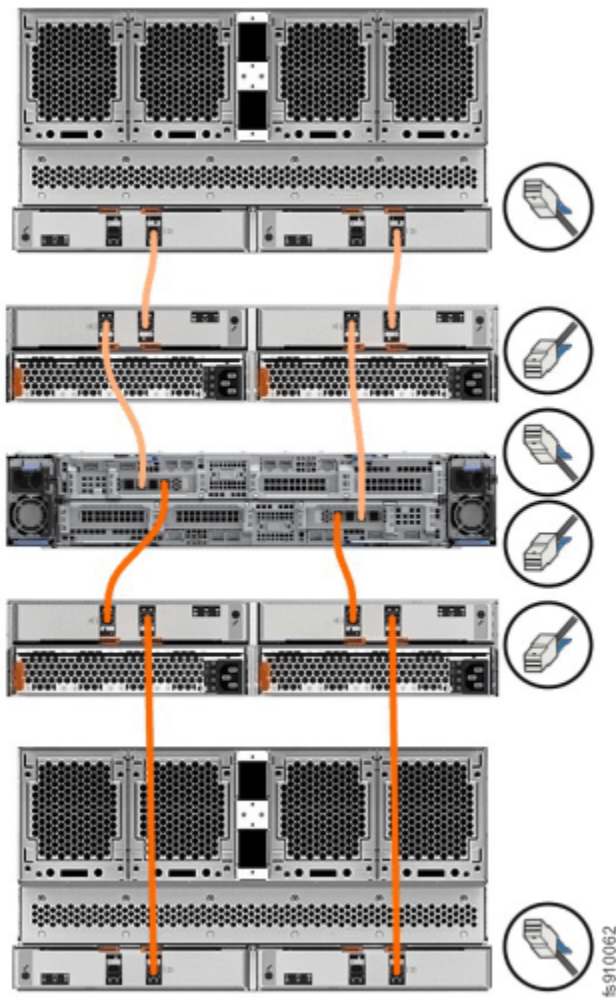

Figure 61. Connecting the SAS cables to control enclosure
- The FlashSystem models support 4-port SAS interface adapters. However, only ports 1 and 3 are used for SAS connections, as Figure 61 on page 99 shows.
- See “Enclosure location guidelines” on page 55 for the number and type of expansion enclosures that can be chained to SAS port 1 and SAS port 3 of a node canister. The expansion enclosures in this chain must be installed below the control enclosure (as shown in Figure 61 on page 99).
- Figure 61 on page 99 shows an example configuration of a control enclosure that is connected to two SAS chains.
- Figure 61 on page 99 is a generic cabling diagram intended to illustrate how to cable the different types of expansion enclosure. Some systems do not allow for a mixture of expansion enclosure types in the same chain. See Chapter 4, “Expansion enclosures,” on page 39 for details on the supported expansion enclosures for your specific system model.
Using the supplied SAS cables, connect the control enclosure to the expansion enclosure at rack position 1, as shown in Figure 61 on page 99.
To add further expansion enclosures, continue to connect the expansion canisters as shown in Figure 61 on page 99.